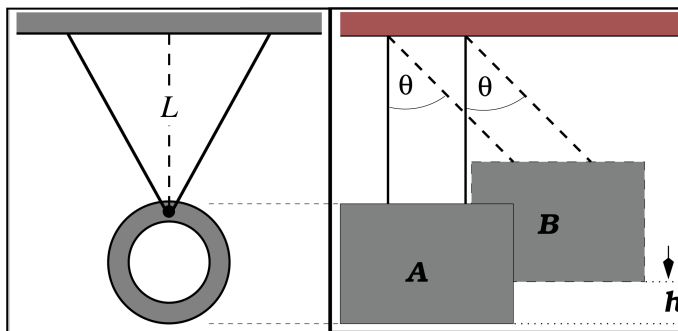

Figure 2: Front and side views of the catcher
To find V , note that motion **after** impact conserves mechanical energy. Hence the kinetic energy of the ball plus catcher at A in Fig. 2, just after impact, equals the potential energy of the two at the top of the swing (at B). Thus
3. Measure m , M and the length L of the pendulum (see Figure 2). Also record ΔL , the uncertainty in L . Minimize parallax error (see Appendix B) when measuring L .